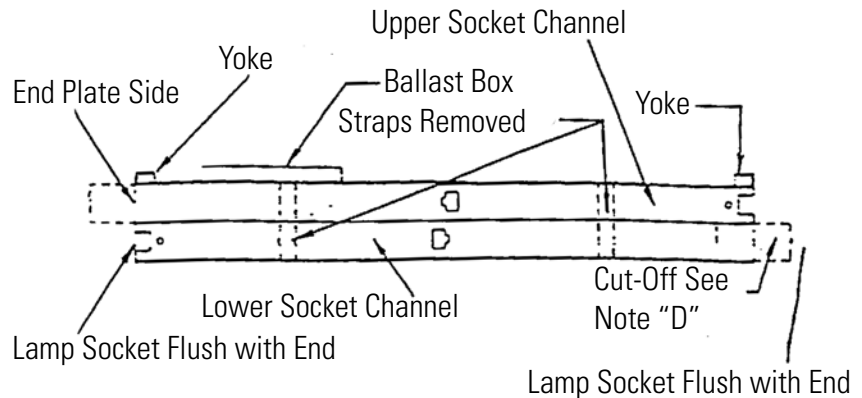

Figure 8
- B. Squeeze and remove the split bushing and slide the socket wires to the bottom hole. (Fig. 8)